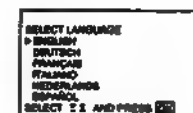

Fig. 1
- 1 Depress ① (main power switch) on the TV unit. The TV will switch on. If the standby indicator on the TV is lit, press \square or a number button on the Remote Commander.
- 3 The LANGUAGE menu appears. (See Fig. 1).